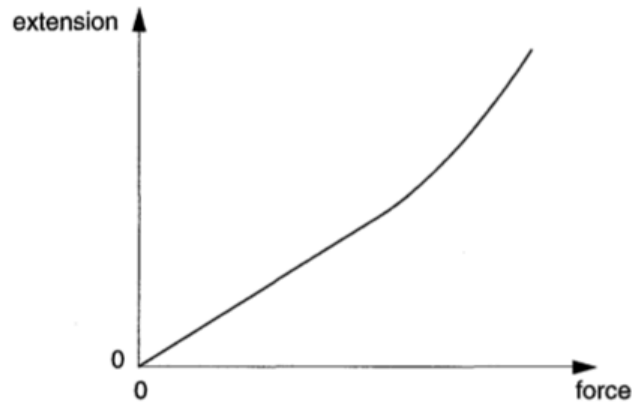

Fig. 3.1
- (a) Fig. 3.1 shows the variation with tensile force of the extension of a copper wire.
- (ii) 1. On Fig. 3.1, mark with the letter L the point on the line beyond which Hooke's law does not apply.
2. State how the spring constant for the wire may be obtained from Fig. 3.1.